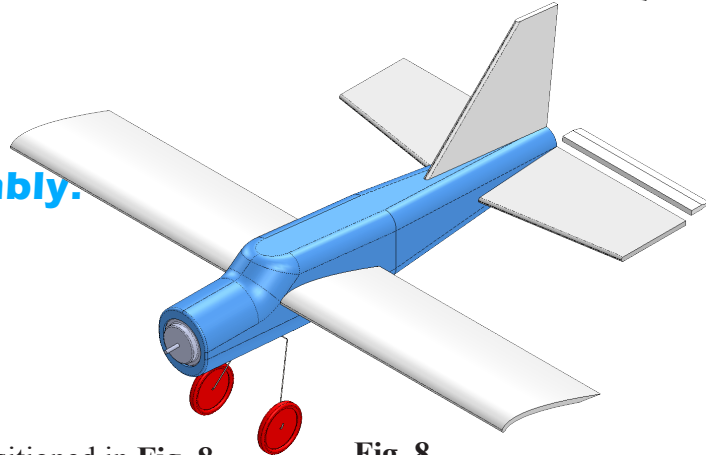

Fig. 8
Step 3. Browse and place **ELEVATOR** as positioned in Fig. 8.